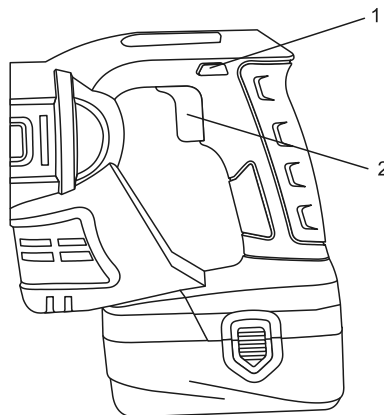

Figure 2
1. The lock-out switch (1) is a safety device designed to reduce the possibility of a user accidentally starting the saw. (Figure 2)